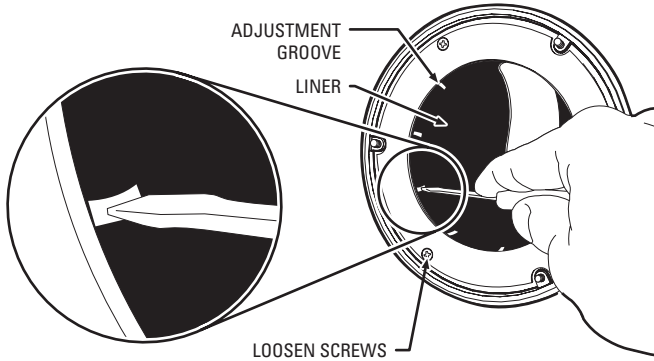

Figure 15. Adjusting the Liner
1. Adjust the liner (if installed), refer to Figure 15: